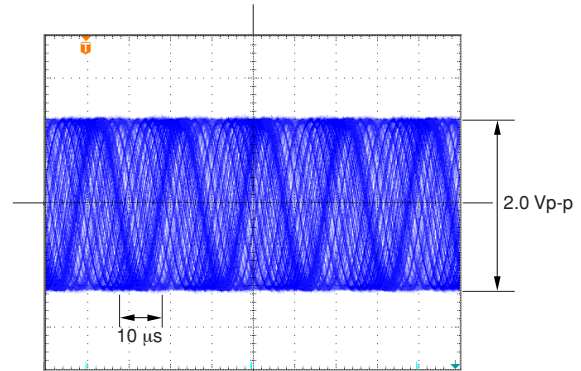

Fig. 6-5
- ⑥ Readjust the GADJ trimmer so that the sine wave amplitude is 1.9 V_{p-p} to 2.1 V_{p-p}, as shown in Fig. 6-5. Fig. 6-5 shows the results of an ideal adjustment.